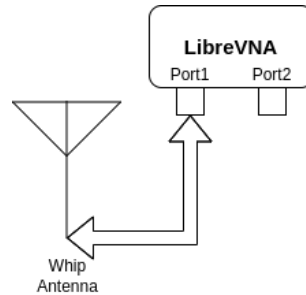

Figure 15: VNA connection with antenna.
- Attach antenna to the VNA's Port1 SMA-cable for S11 measurements. Your setup should resemble figure 15.